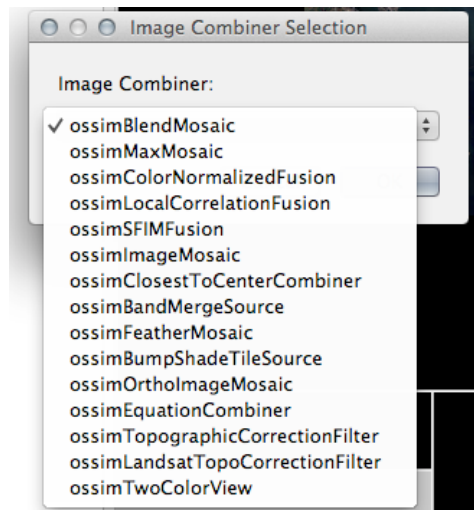

Figure 5. Combine Selection Window
3. A selection window is displayed, as shown in Figure 5